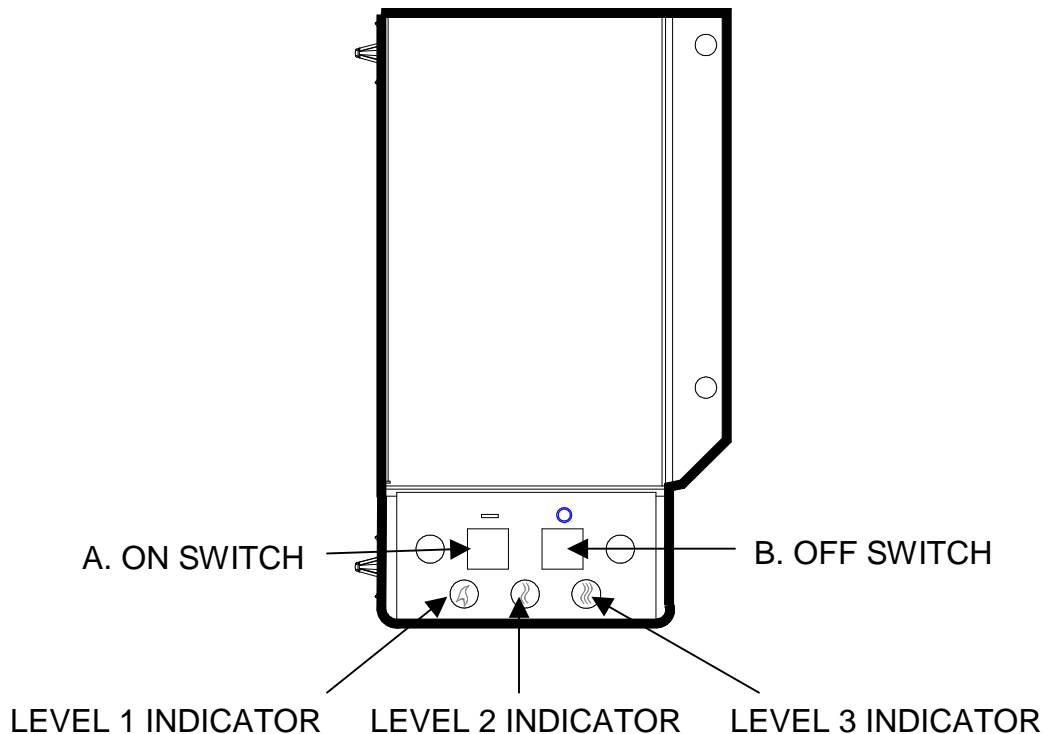

FIGURE 3
4. Press — (on) button located on the Manual Selection Control for **3 seconds** (FIGURE 3). All 3 indicators will flash.
The fireplace can also be controlled in a similar manner to the remote control with switches located on the fireplace (FIGURE 3).